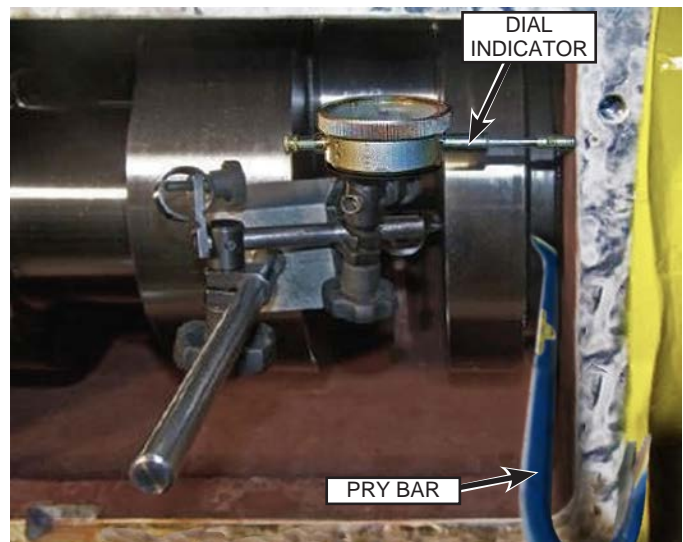

Fig. 162: Dial Indicator Mounting
13. Mount a magnetic base dial indicator on the crankshaft with the indicator pin on the inside edge of the rear opening, as shown in Fig. 162.